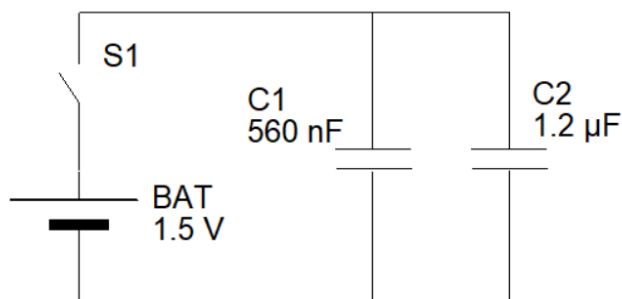

Figure 5: Circuit 4
- a. Find the total capacitance of the circuit shown in Figure 5 below. Show all your working.